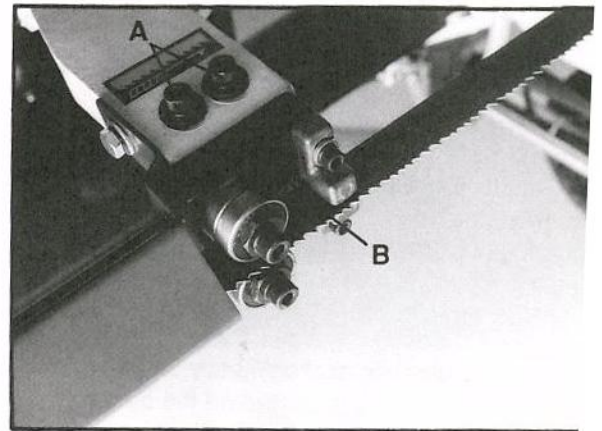

Fig. 9
2. Loosen two hex socket cap screws (A, Fig. 9 ).
3. Move guide seat (B, Fig. 9 ) up or down until a clearance of .003" to .005" between back of blade and thrust roller is obtained.
4. Tighten two hex socket cap screws (A, Fig. 9 ).